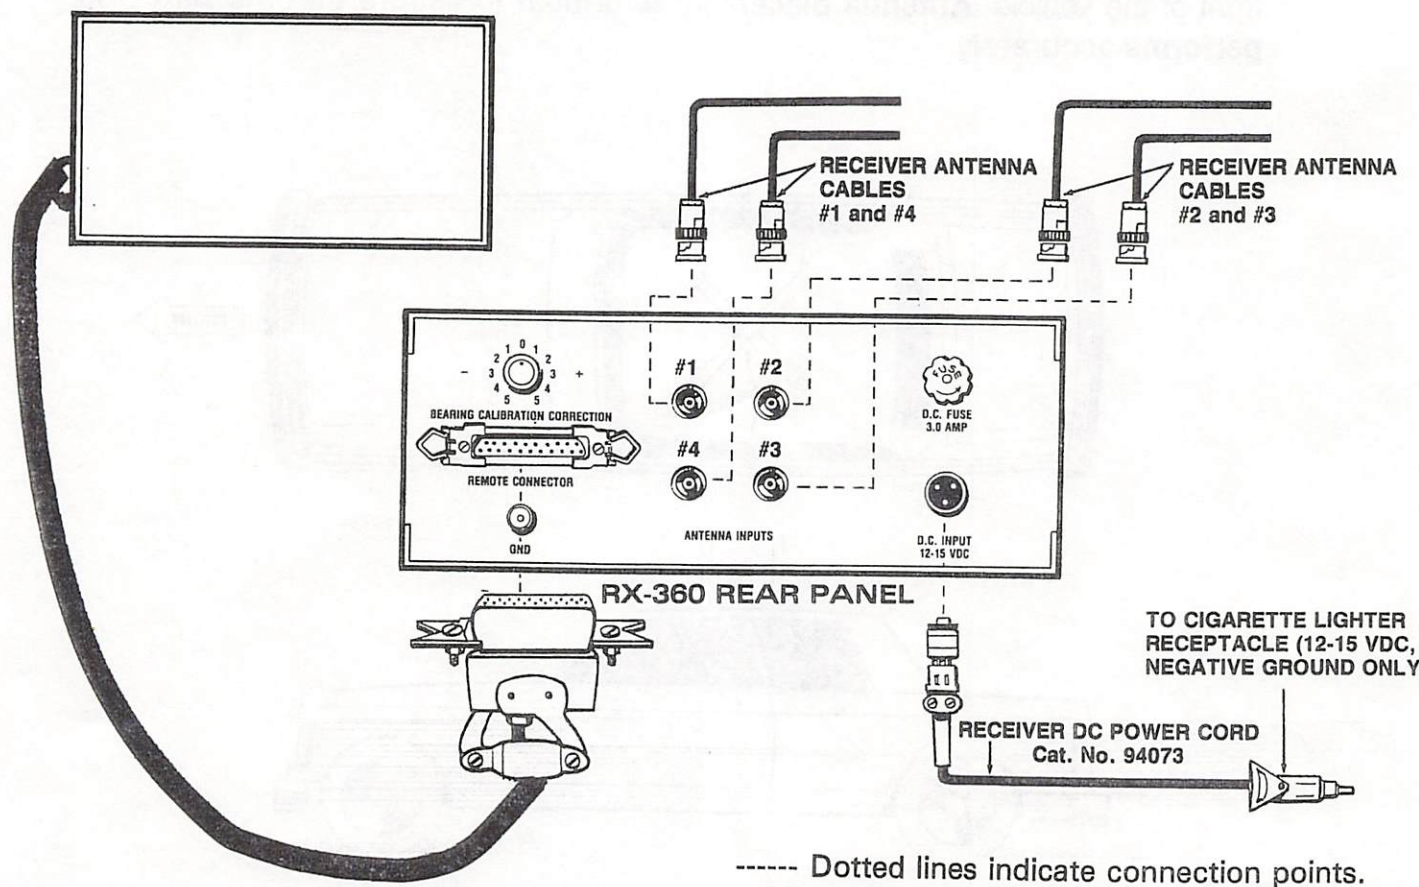

Figure 9. RX-360 Receiver and 360 Degree DF Indicator.
2. Route the antenna cable to the rear of the RX-360 receiver and connect to the antenna jacks. Be sure that the Antenna No. 1 cable is connected to Antenna Jack No. 1; Antenna No. 2 cable to Antenna Jack No. 2; Antenna No. 3 cable to Antenna Jack No. 3 and Antenna No. 4 cable to Antenna Jack No. 4. See Figure 9.